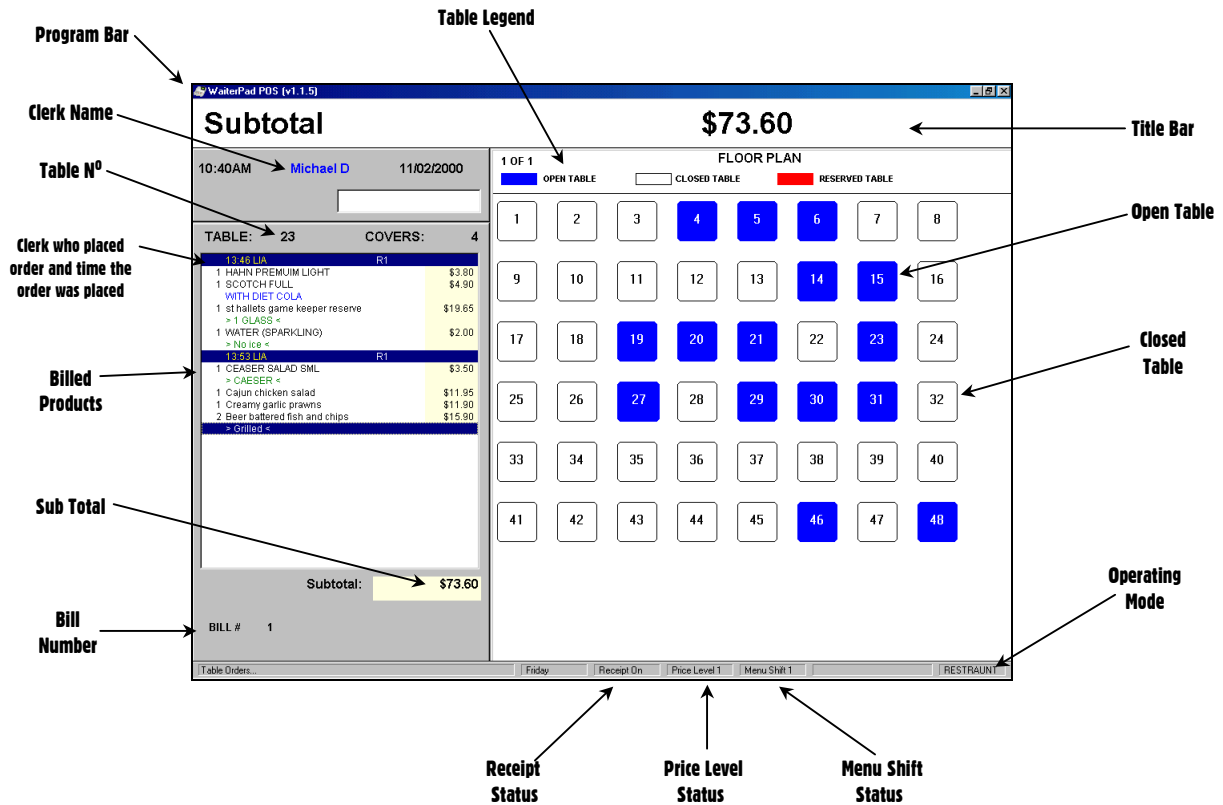

Fig 4.2(a) WaiterPOS screen.
The example WaiterPOS screen illustrated in **Fig 4.2(a)** shows a number of active tables and a bill open on the left-hand side of the screen. The operation of WaiterPOS is discussed in following sections however note that the user can only operate the WaiterPOS if the program is active, indicated by a blue program bar at the top of the screen. If the program bar is gray then the program is inactive, activate by clicking anywhere on the screen with the left mouse button.
3. The tables order(s) will be opened on the left-hand side of the screen as shown above in **Fig 4.2(a)**.
5. The change amount will be displayed in the title bar as highlighted in **Fig 4.2(a)**.
To print a table's bill, log on to the system, open the table and then press the **Print Bill** key. Receipts will automatically print on tendering if the receipt function is turned on. The receipt can be turned off by pressing the **Receipt On/Off** key, the current status of the receipt is indicated on the WaiterPOS screen as shown in **Fig 4.2(a)**.